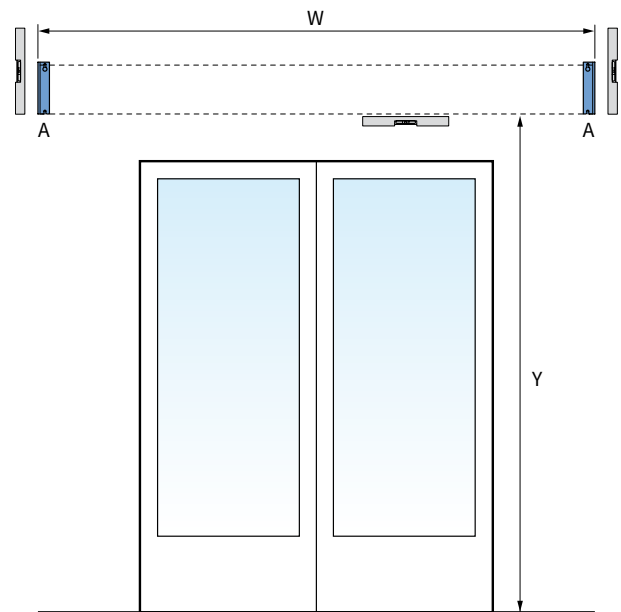

fig. 1.2 Placing the wall supports
Mark the drill holes of the wall supports (A) carefully on the wall according to size X and size Y in figure 1.2. Make sure that the upper installation holes are in the middle of the stone. If necessary, use an alignment string.
1. Mark the position of the wall strips on the wall according to size X and Y in figure 1.2. The wall strips need to be, both horizontal and vertical, levelled. Make sure that the installation holes are in the middle of the stone. If necessary, use an alignment string.